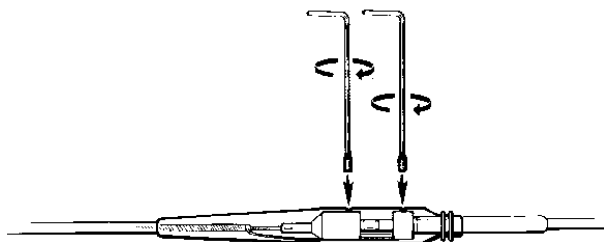

Figure 2. Turn the setscrews into the threaded holes on the adaptor
3. Use the supplied hex wrenches with setscrew attached and turn a setscrew into each threaded hole located on each side of the receptacle end of the adaptor (see Figure 2).